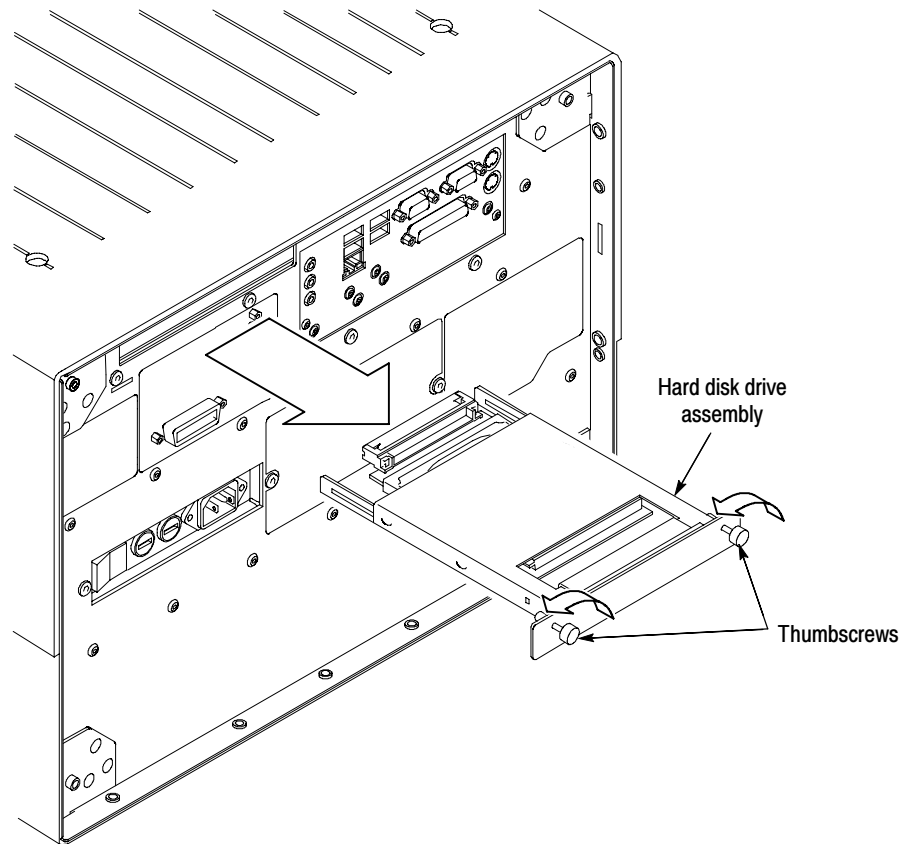

Figure 6: Hard drive disk removal
3. *Remove the hard disk drive:* See Figure 6, page 17.